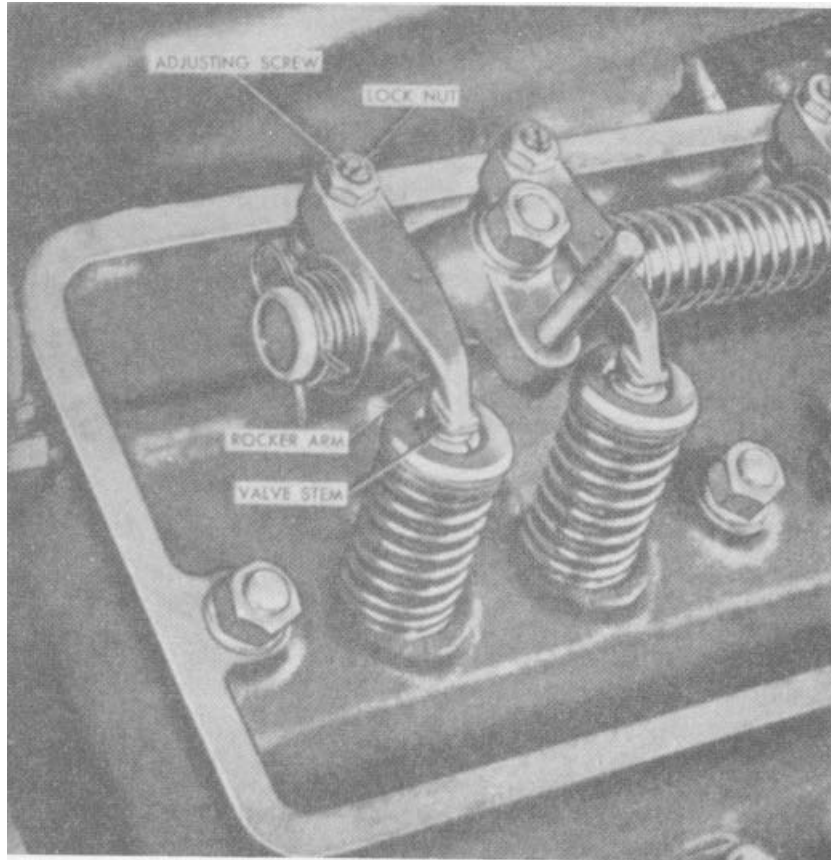

Figure 56. Valve clearance adjusting screws.
- d. Loosen the lock nut (fig. 56) and turn the adjusting screw in or out until a 0.014-inch feeler gage fits snugly between the rocker arm valve contact face and the end of the valve stem. Without further movement of the screw, tighten the lock nut securely. Adjust the clearance of the second valve of the number one cylinder in the same manner.